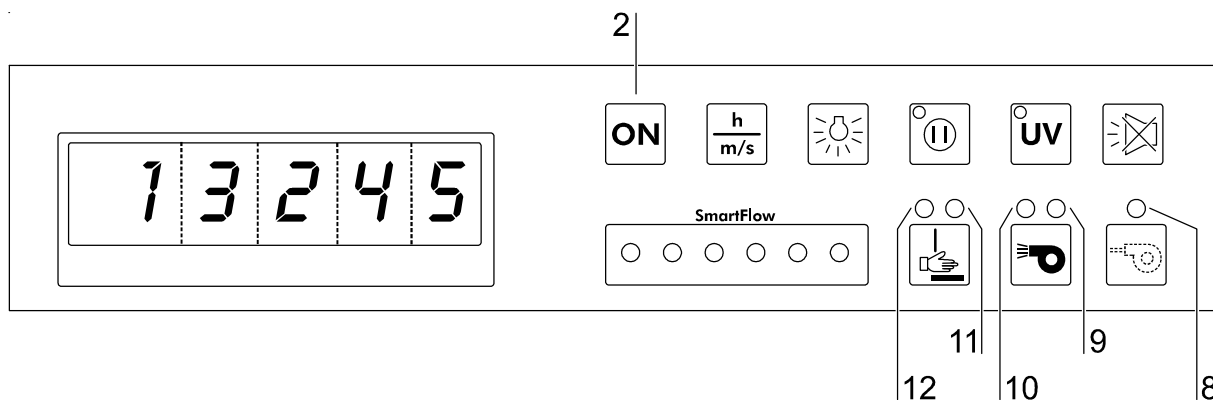

Fig. 14
1. **Fig. 14:** Switch the device on, keep the **ON** key [2] depressed until: